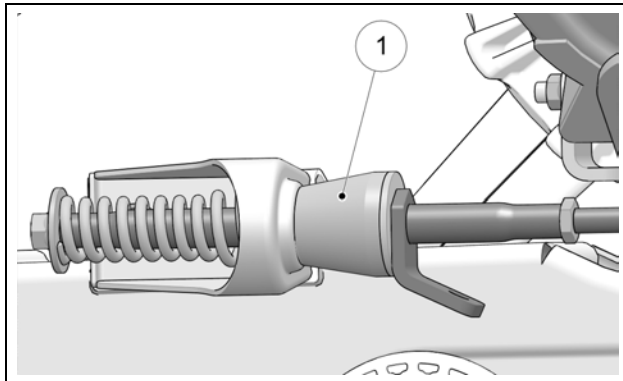

Figure 34
Check wear and damage on rubber dampers (1) mounted on the stabilizing arms. Replace them if they show cracks or are excessively worn or deformed. See Figure 34.